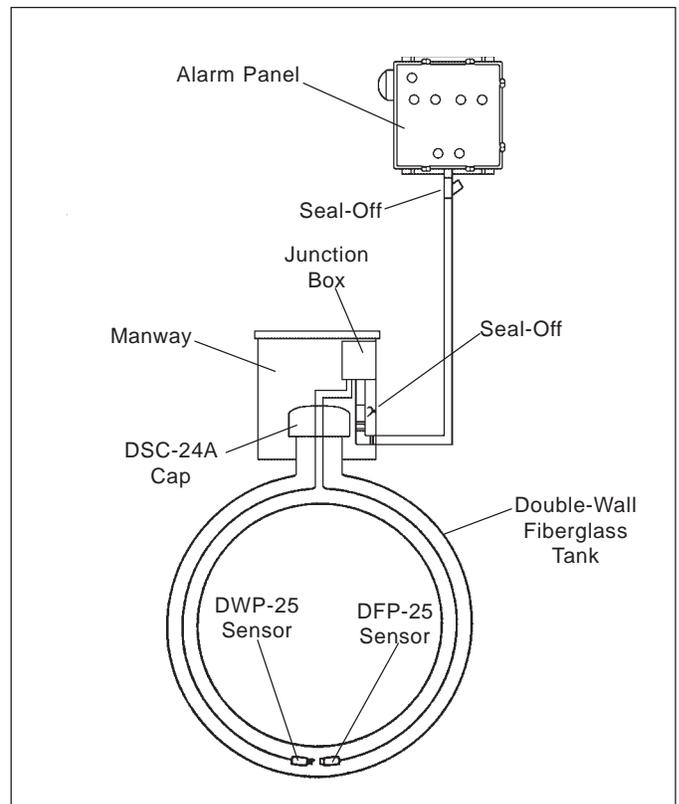

Figure 2-2
10. **Complete Installation:** Slip DSC-24A cap over the half nipple. Tighten compression nuts (see figure 2-2).